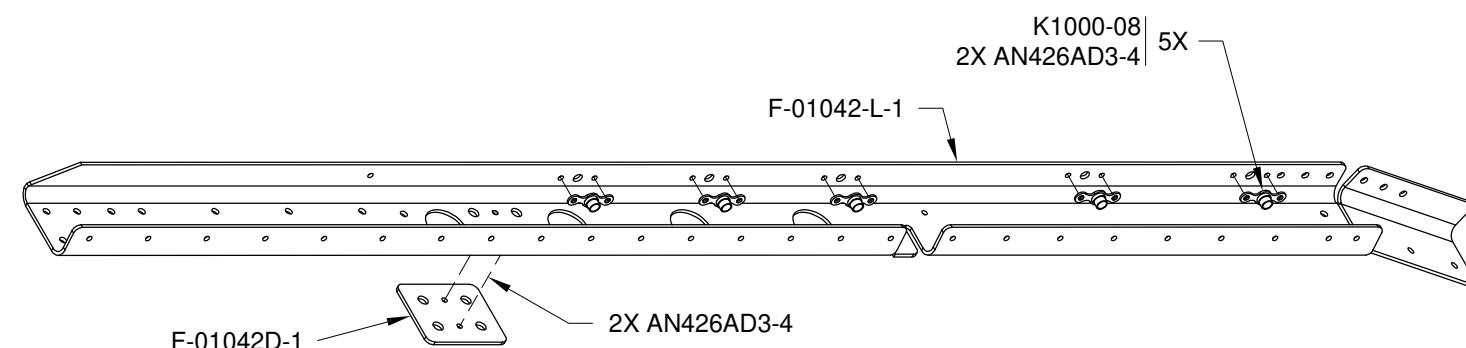

FIGURE 3: BULKHEAD SIDE CHANNEL NUTPLATE INSTALLATION
Step 3: Machine countersink the F-01042D-1 Spacers and the nutplate attach holes in the F-01042-L-1 & -R-1 Bulkhead Side Channels for the head of an AN426AD3 rivet. See Figure 3.
Step 5: Install nutplates to the F-1043C-L and F-1043C-R Attach Angles as shown on Page 28-2, Figure 3.